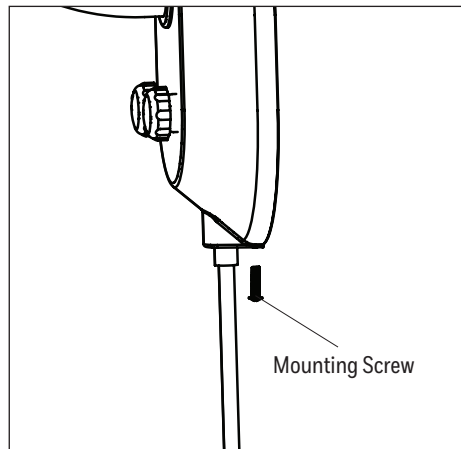

Figure 1.5
5. Replace the previously removed mounting screw into the fan base to secure the base to the mounting bracket (Figure 1.5).